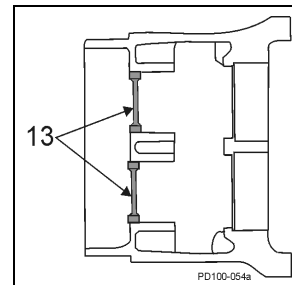

Figure 43 - Remove Rear Oil Seals
10. Press out and discard both rear oil seals in gear case (Figure 43, item 13).